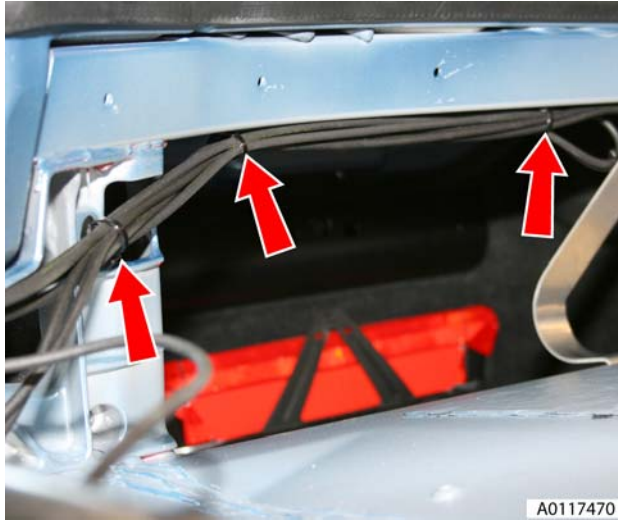

Figure 11
- Remove harness/pipe retaining clips (x3) RH/LH (see Figure 11).